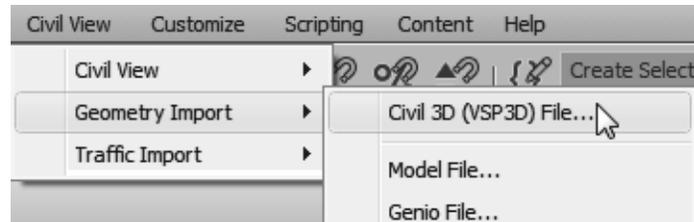

Figure 3–6
2. In the menu bar, select **Civil View>Geometry Import>Civil 3D (VSP 3D) File**, as shown in Figure 3–6.